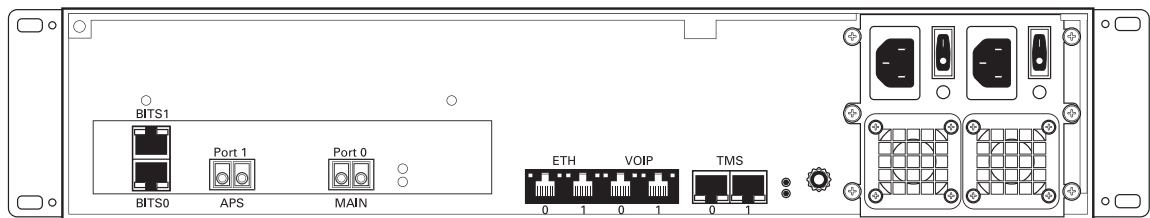

Figure 2.26 Optical Interface to the PSTN
A TMG7800-STM-1, with one main and one backup OC3 or STM1 port enables connection to OC3/STM1 lines. See figure 2.26 on page 35. Refer to table 2.2 on page 35 for a listing of optical interfaces. The default SFP module for OC3/STM1 connection is SMF, intermediate reach, (SFP-OC3-IR1) 1310 nm with LC type connectors.
1. Connect a fiber optic cable between the Port 0 (Main) port and OC3/STM1 line, as shown in figure 2.26 on page 35.